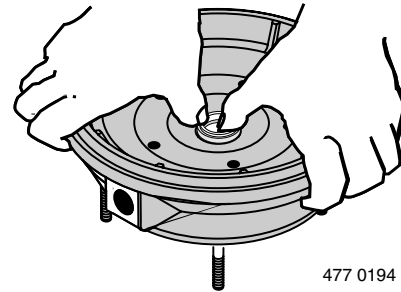

Figure 24 – Press in New Seal
3. Put clean cardboard washer on seal face. With thumb pressure, press ceramic seal half firmly and squarely into seal cavity (See Figure 24). Polished face of ceramic seat is up. If seal will not seat correctly, remove, placing seal **face up** on bench. Reclean cavity. Seal should now seat correctly.